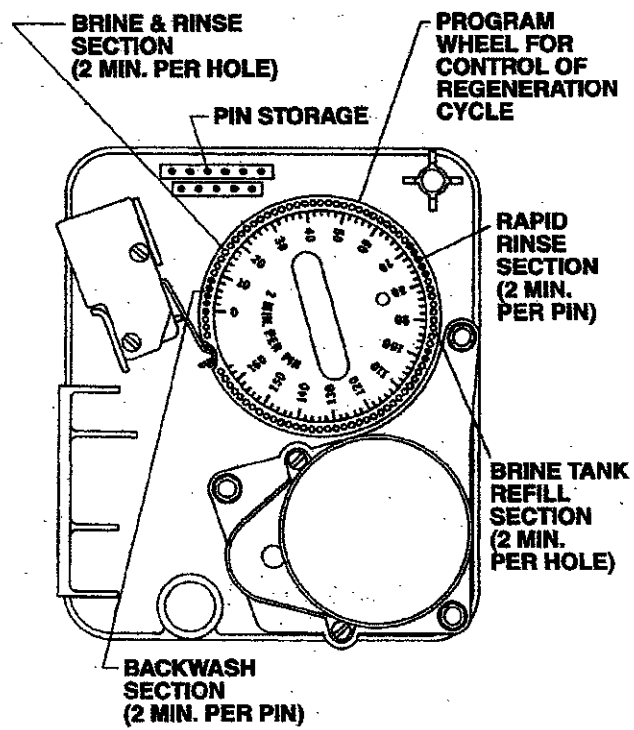
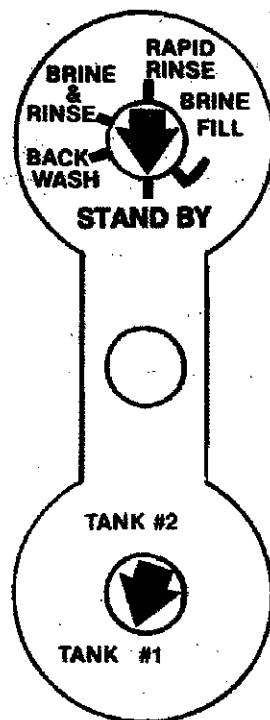

Figure 1
Figure 2
Each control valve position can be manually selected by rotating the **manual regeneration knob** clockwise until micro switch located on rear of timer door is aligned with each cycle position on the program wheel. (See Figure 1.) Verification of each cycle position can be made by checking indicator on right side of control valve. (See Figure 2.)
1. Manually index **manual regeneration knob** to **BACKWASH** position and allow water to run to drain for 3 to 4 minutes. (See Figure 1.)
2. Manually index **manual regeneration knob** to **BRINE REFILL** position and allow the brine tank to fill just over the salt grid plate. (See Figure 1.)
3. Manually index **manual regeneration knob** to **BRINE & RINSE** position and allow the control valve to draw water from the brine tank until it stops. (See Figure 1.)
4. Manually index **manual regeneration knob** to **SERVICE** position. (See Figure 1.)
6. Manually index **manual regeneration knob** to **BRINE TANK REFILL** position and allow the control valve to automatically fill the brine tank. (See Figure 1.)
To set capacity based on previous example, rotate program wheel counterclockwise until white dot on outer most gear is aligned with capacity (gallons) arrow. (See Figure 1.) Place your thumb firmly on white dot to hold outer gear while setting program wheel. Lift out on center of program wheel and rotate until 900 gallons is opposite the capacity (gallons) arrow.